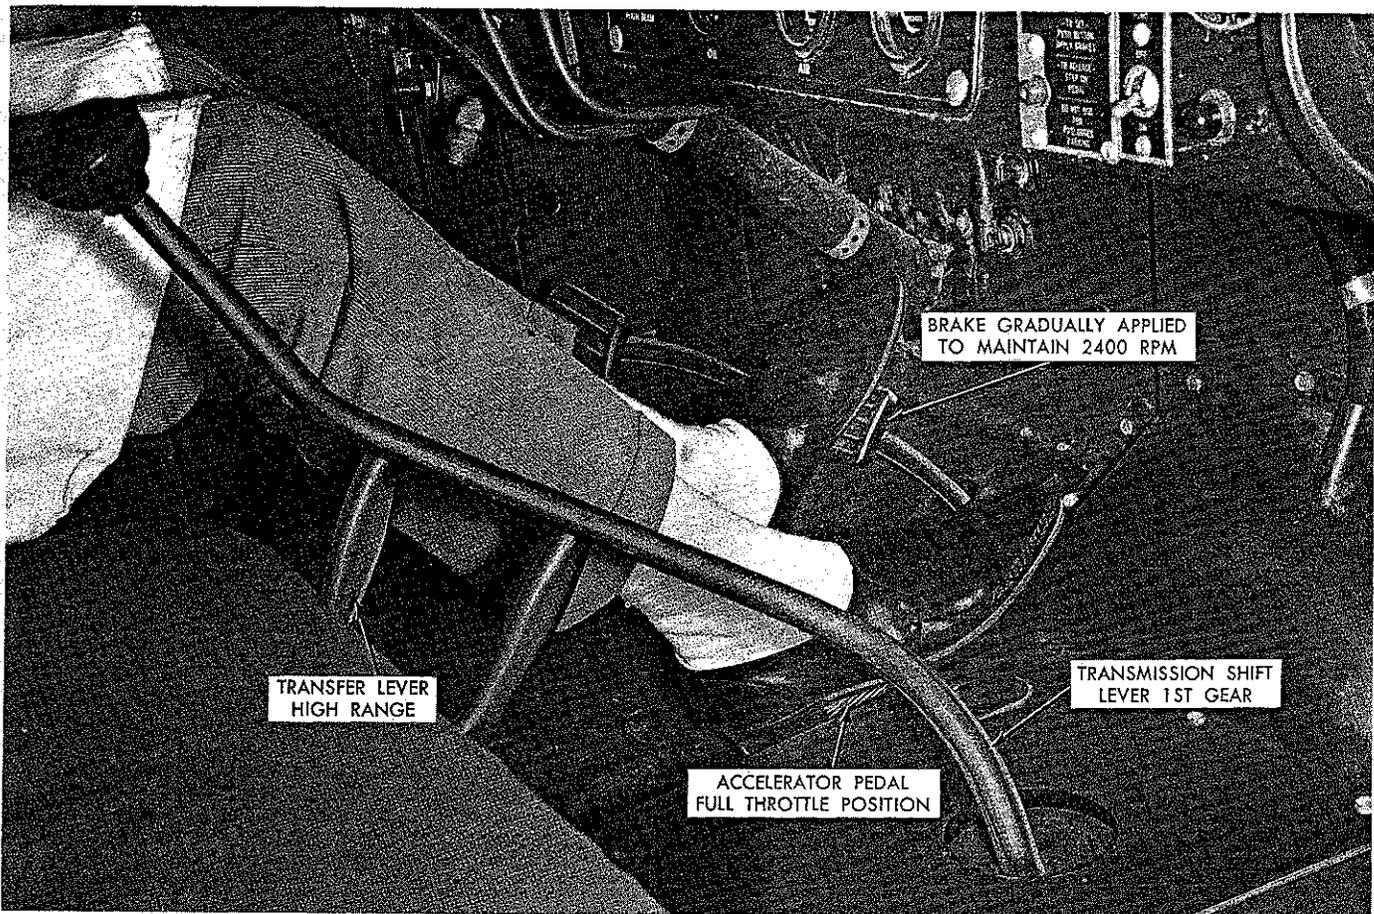

Figure 45
- (b) Move the vehicle out in first gear. With the vehicle moving, push the foot accelerator pedal to the maximum full throttle position, Figure 45.